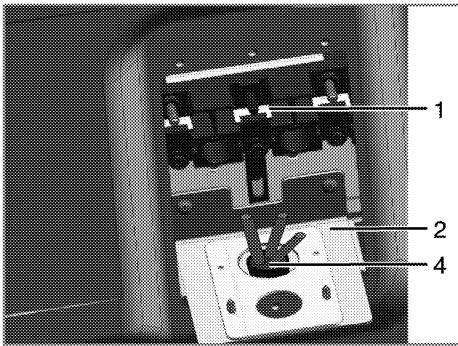

Fig.5
1. Follow the power supply kit manufacturer's Installation Instructions supplied with the supply cord kit and install. See Figure 5.
5. Make sure all screws are tightened securely and replace the rear access cover. See Figure 5.